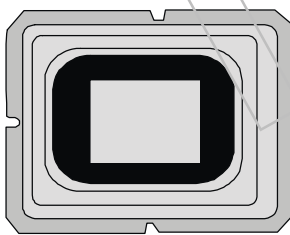

Fig. 1.1
1. Making sure you have SVGA chip on hand. (as shown on above Fig. 1.1)